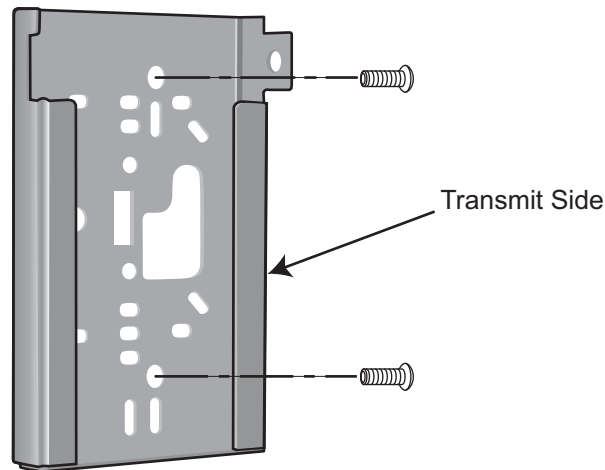

Figure 11 Attach the Mount Bracket
- When mounting the radio node vertically, orient the bracket with the open end on top and the closed end on the bottom. Figure 11 on page 14 shows the proper vertical orientation.
- When mounting the radio node near a wall or other obstruction, orient the bracket such that the radio node transmit side towards the coverage area. In vertical mountings, this is on the right side of the radio node. Figure 11 on page 14 shows the mounting bracket orientation: